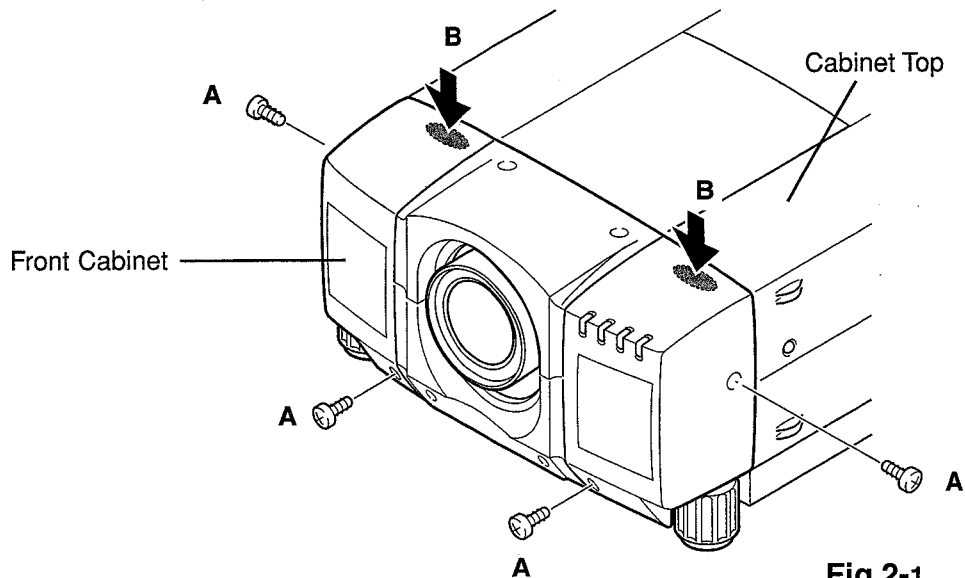

Fig.2-1
- 1) Remove 4 screws (A) on the cabinet front.
- 2) Push down the part B of the cabinet front by finger (slight bent cabinet downward) and remove the engagement of it. See **Fig.2-1**. The front and top cabinets are engaged with 4 hooks at the top and 3 hooks at the lower part. See **Fig.2-4** on next page for location of the hooks. Release those hooks when separate the both cabinets.